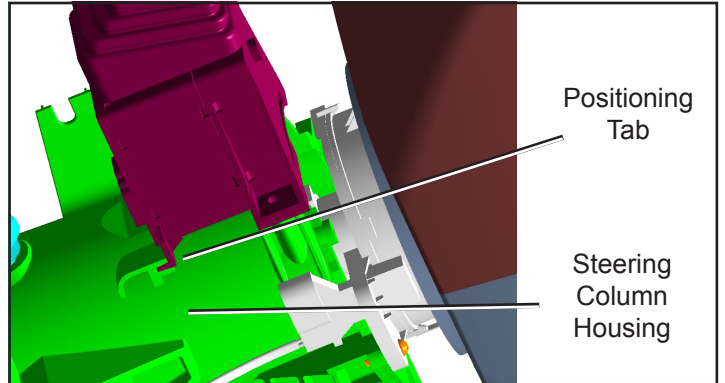
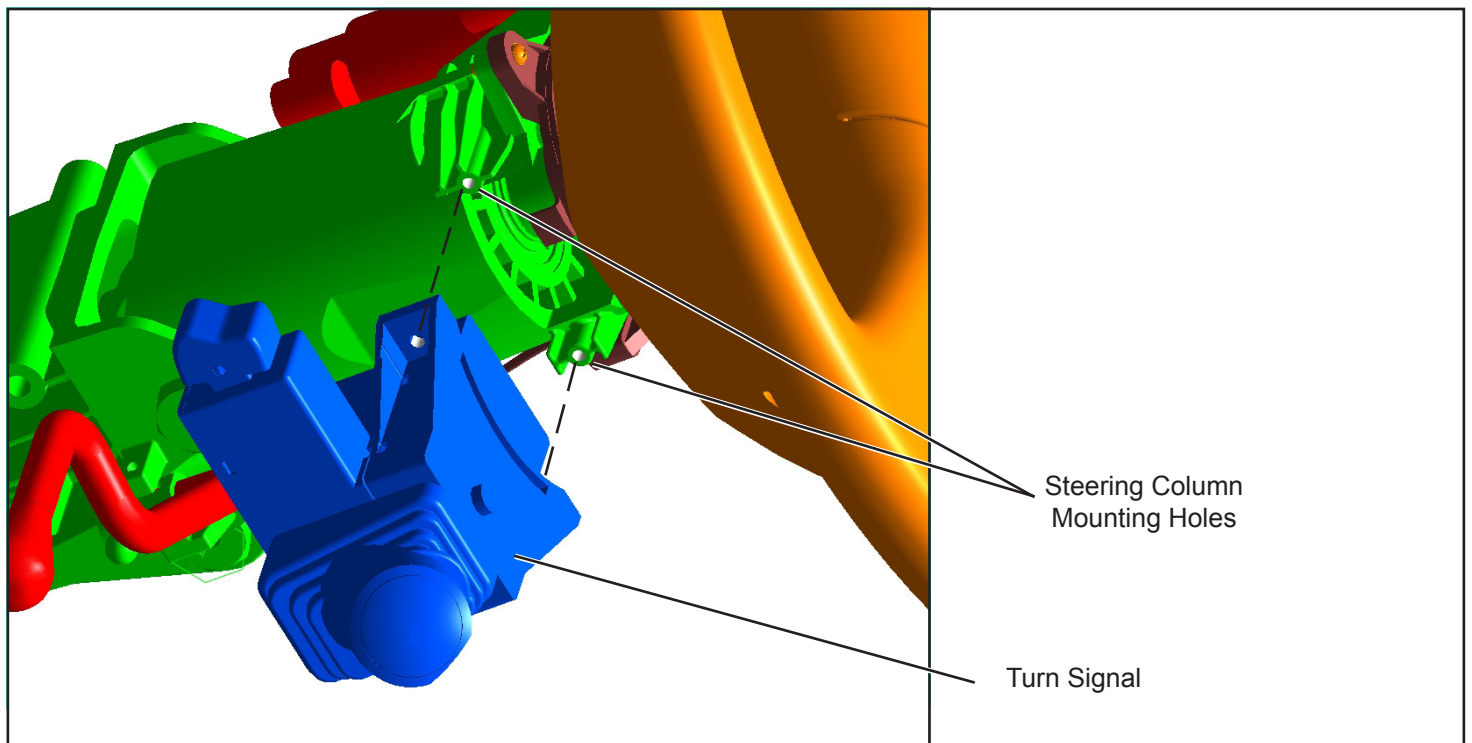

Figure 3 Positioning Tab
Figure 4 Turn Signal Installation
1. Select the appropriate turn signal screw (2). If the upper head material is aluminum, use the machine screw (2), otherwise use the plastite screw (2).
2. Align the mounting holes of the new turn signal (1) with the holes in the steering column housing. *Refer to Figure 4.* Ensure the positioning tab is centered in the steering column housing locating slot as shown in Figure 3. Secure using the appropriate turn signal screws (2) contained in this kit. Torque to 15-35 in-lbs.